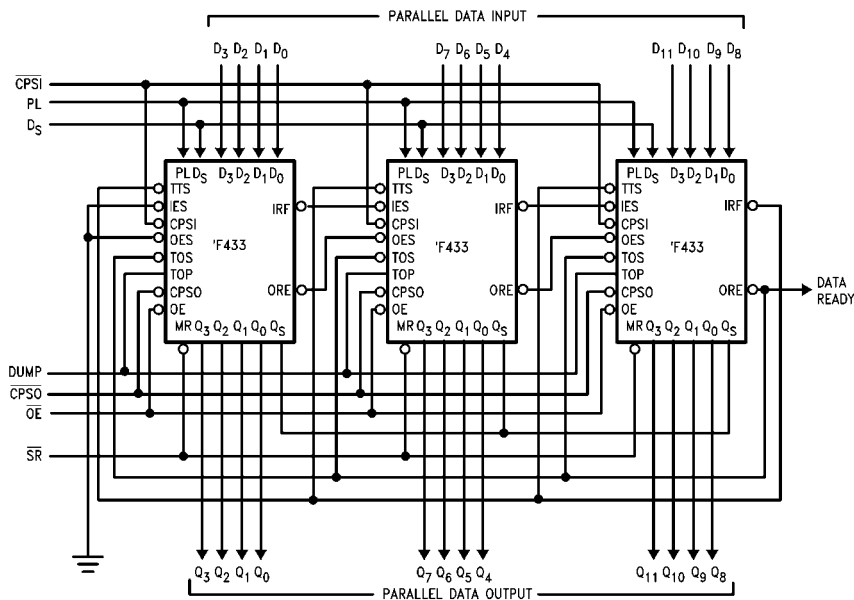

FIGURE 5. A Horizontal Expansion Scheme
**Horizontal Expansion**—The 74F433 can be horizontally expanded, without external logic, to store long words (in multiples of 4-bits). The interconnections necessary to form a 64-word by 12-bit FIFO are shown in Figure 5. Using the same technique, any FIFO of 64-words by 4n-bits can be constructed, where n is the number of devices.
It should be noted that the horizontal expansion scheme shown in Figure 5 exacts a penalty in speed.